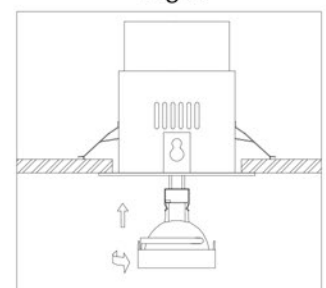

Fig. 4
6. Put the inner trim on the fitting as Fig 4.